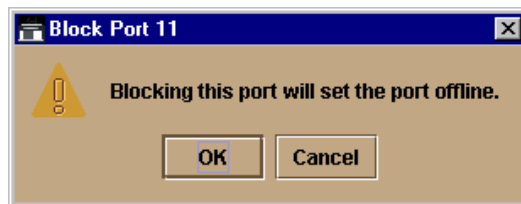

Figure 3-21: Block Port *n* Dialog Box
6. Select Block Port. The Block Port *n* dialog box (Figure 3-21) displays (*n* is the port number).